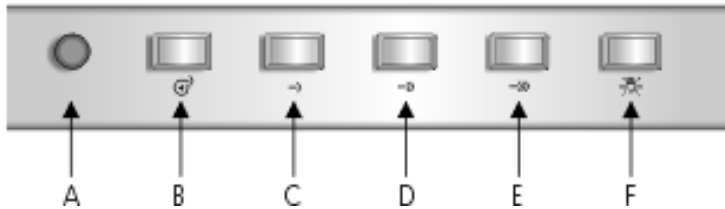

Fig. 1
- 1.1 - **STEUERPULT 1 (Abb.1)**
- 1.1 - **CONTROL PANEL 1 (Fig.1)**
- 1.1 - **TABLEAU COMMANDES 1 (Fig.1)**
- 1.1 - QUADRO COMANDI 1 (Fig.1)**
- 1.1 - BETJENINGSOVERSICHT 1 (Fig.1)**
- 1.1 - BEDIENINGSPANEEL 1 (Fig.1)**